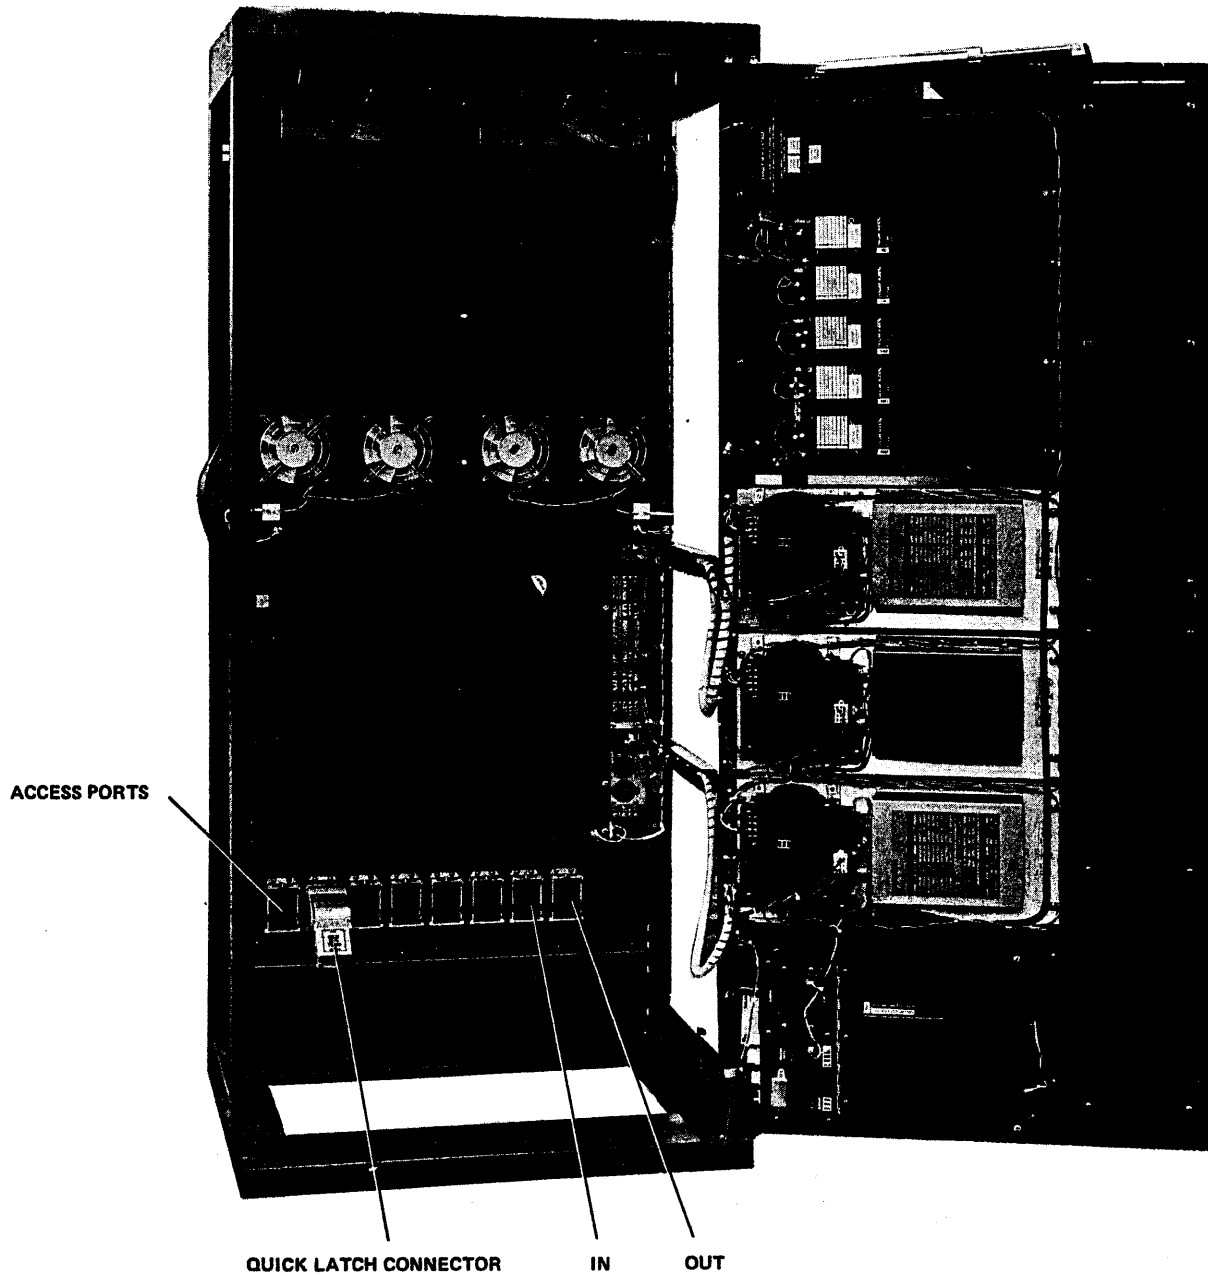

Figure 1-3 MF10 Rear View (Access Ports)
- b. Quick Latch bus connectors (Figure 1-3)